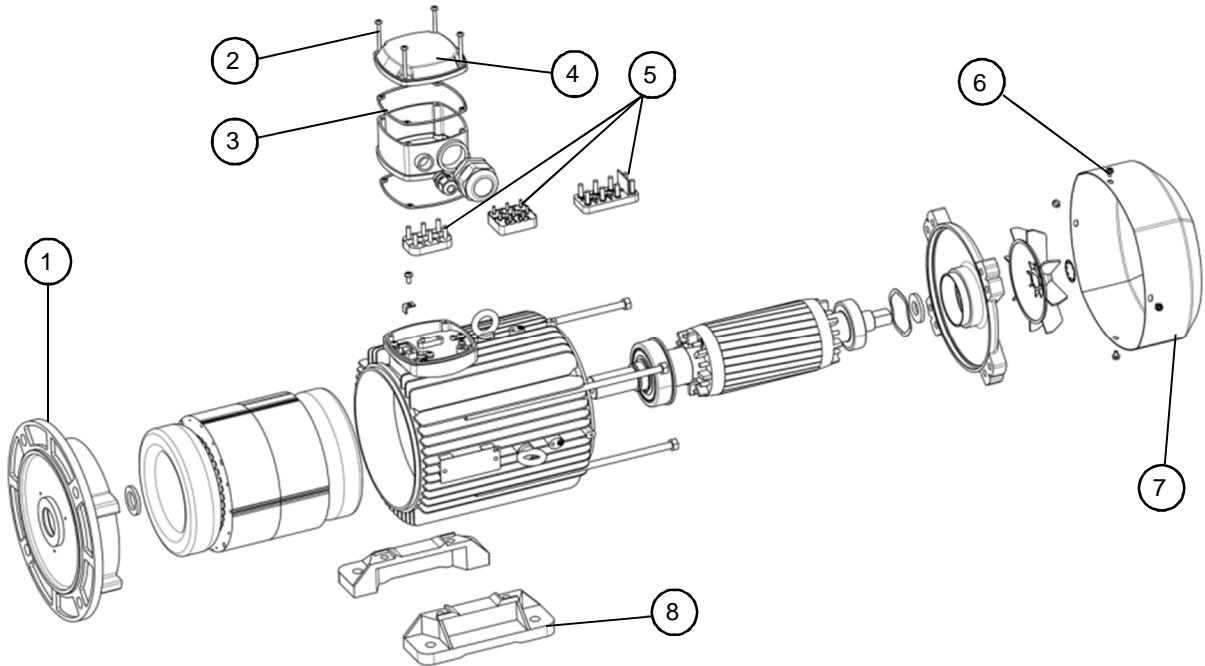

Fig. 4 Main motor component parts
Tab. 5 Key for Fig. 4
*Preparation* The motor must be protected from the weather and installed in a frost/dust-free, well-ventilated atmosphere which is not potentially explosive. The motor must not be installed outdoors. The motor can be installed to a system using either the motor flange Fig. 4 Item 1 or with the corresponding feet Fig. 4 Item 8. Compare the rating plate specifications with the available current type, voltage, and frequency, as well as the required performance, speed, and operating mode. Use the motor only in accordance with the stamped protection class according to EN 60034-5/IEC 60034-5/DIN VDE 0530-5 and only in the design intended by the manufacturer according to EN 60034-7/IEC 60034-7/DIN VDE 0530-7